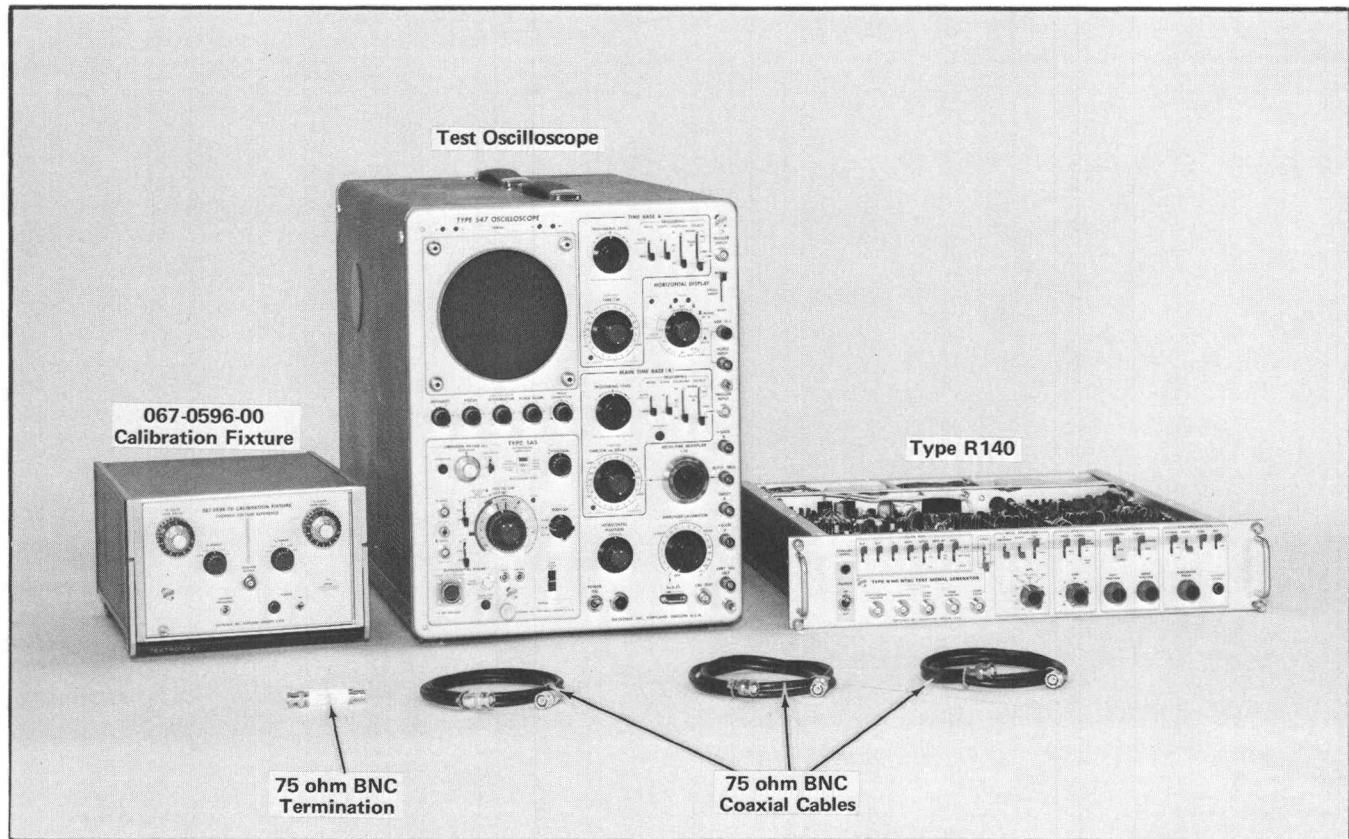

Fig. 5-6. Test equipment required for steps 7 through 11.
a. Test equipment is shown in Fig. 5-6.